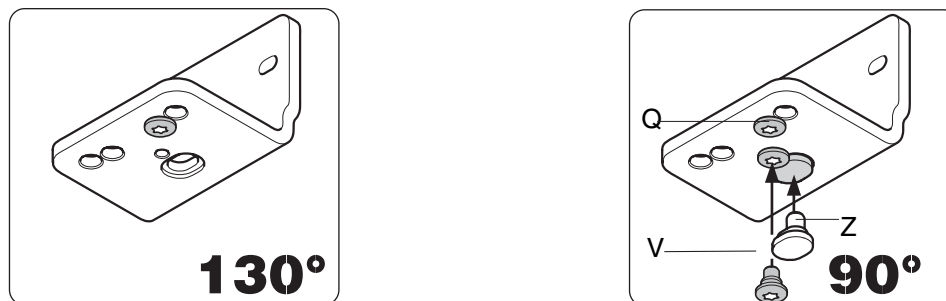

Figure 8
- **Insert** eccentric (Z) in the lower hinge as shown in **Figure 8**. Fix the eccentric with screw (V). The eccentric pin must point away from the hinge pin.